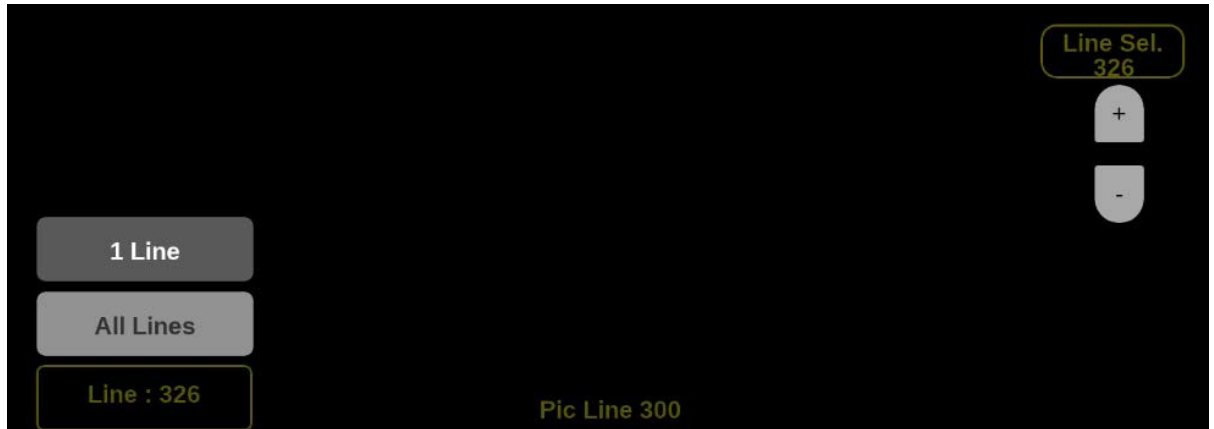

Figure 98: Waveform on-screen tools – Line Selects
If **1 Line** is selected, the display only shows results for the selected line in the picture. The line can be selected using the on-screen tools. (See Line Select function.) Or the line can be selected directly on the Picture. (See Figure 98.)
1. Select the **Lines** button at the bottom of the application. (See Figure 98.)